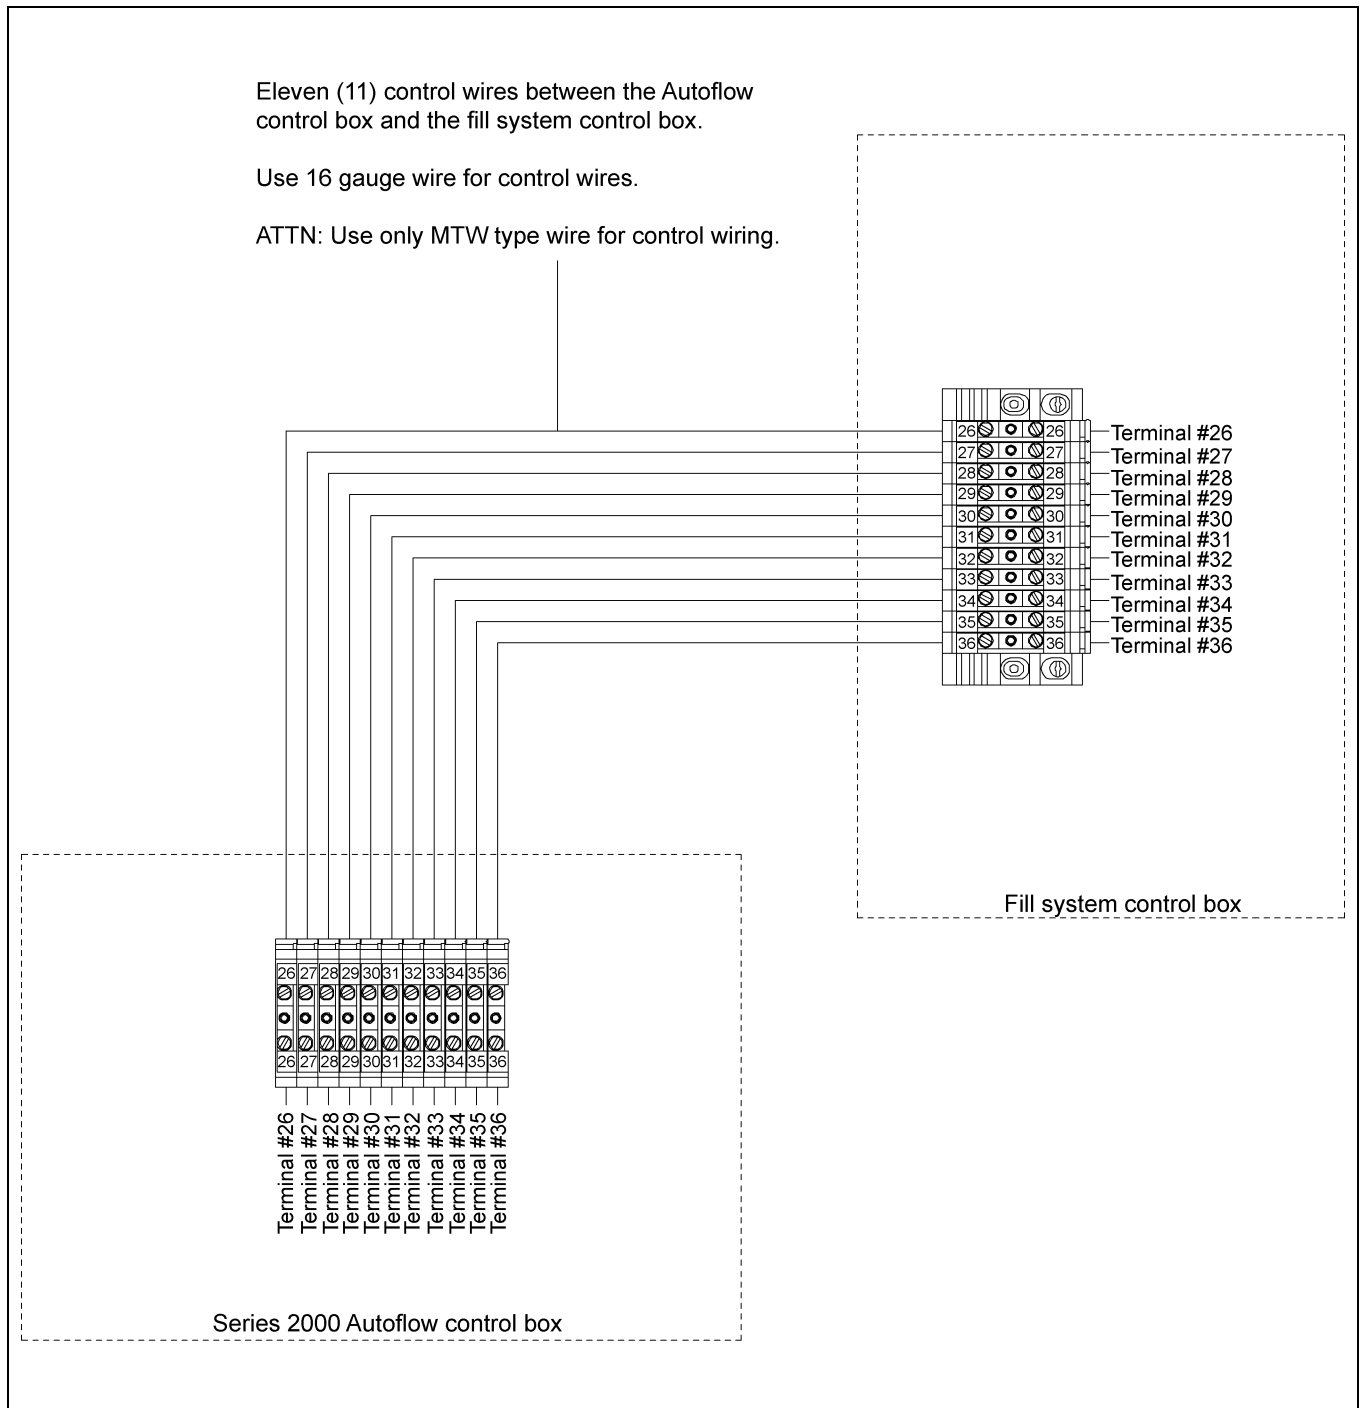

Figure 4J
1. Run eleven (11) control wires from the Autoflow control box to the fill system control box.
2. Connect the wires as shown in Figure 4J.